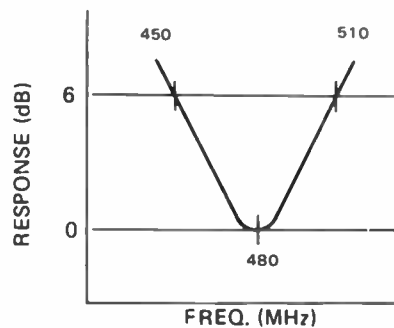

Figure 5. RF CHARACTERISTIC CURVE
Step 3: Adjust TC1 of RF Section for maximum output and best curve symmetry as shown in Figure 5.